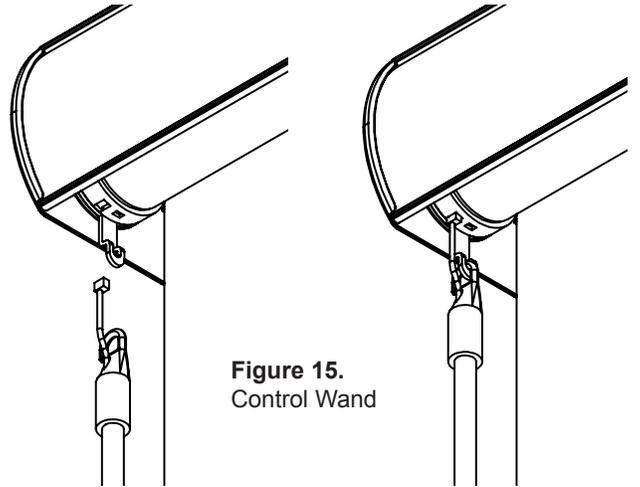

Figure 15.
Step 13. Hook the control wand onto the tab on the motor and plug the power cord into the motor as shown in **Figure 15**.